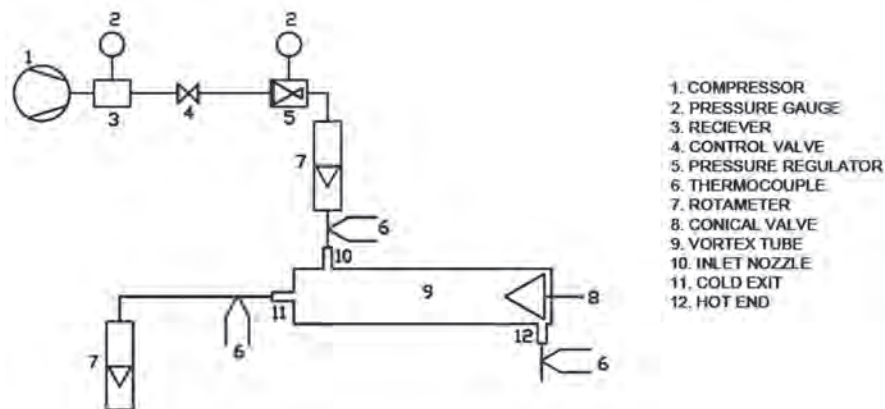

Fig. 2: Schematic diagram of experimental setup...
The schematic diagram of the experimental test facility is shown in Fig. 2. Compressed air from the compressor (1) passes through the control valve (4) and pressure regulator filter section (5) and enters in the vortex tube (9) tangentially. To ensure the tangentially entry of the compressed air in the vortex tube to have proper swirling of the air special care was taken. The compressed air expands in the vortex tube and divides in to cold and hot streams. The cold air leaves the cold end orifice (11) near the inlet nozzle (10) while the hot air discharges the periphery at the far end of the tube i.e., hot end (12). The control valve (needle valve) controls the flow rate of the hot air (8). Two rotameters (7) measures the mass flow rates of the hot and cold air. Thermocouples numbered (6) measure the temperature of the leaving cold and hot air in the vortex tube. The pressure of inlet gas is measured by pressure gauge (2) and the temperature of inlet gas is measured by thermocouple (6). To investigate the effect of geometrical parameters on the operational characteristics of vortex tube, vortex tubes with different tube sizes and different cold end sizes has been constructed and tested. Photograph of the experimental test facility